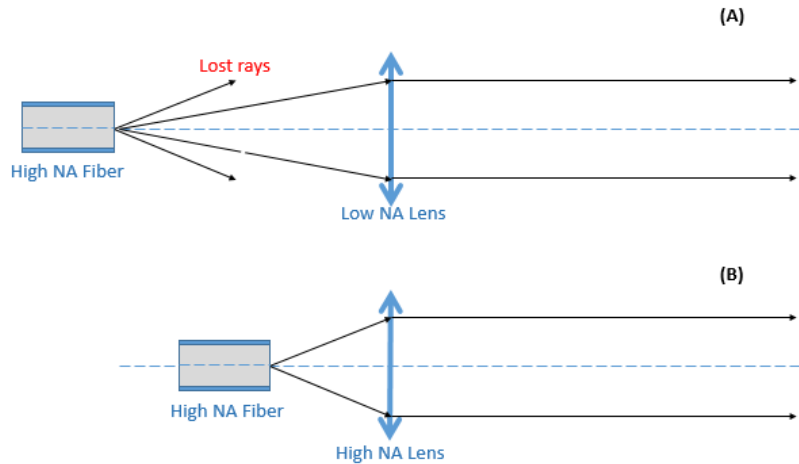

Fig. A3: (A) High NA fiber connected to low NA Collimator Lens, (B) High NA fiber connected to high NA Collimator Lens
Standard collimators are designed for low NA fibers (like NA 0.22) therefore when high NA fiber is connected to such collimator the highly divergent rays will be lost (Fig. A3 (A)) resulting in significant power losses. Alternatively if high NA fiber will be connected to high NA collimator the collimator lens NA is matched to the NA of the fiber resulting in good power throughput (Fig.A3 (B)).